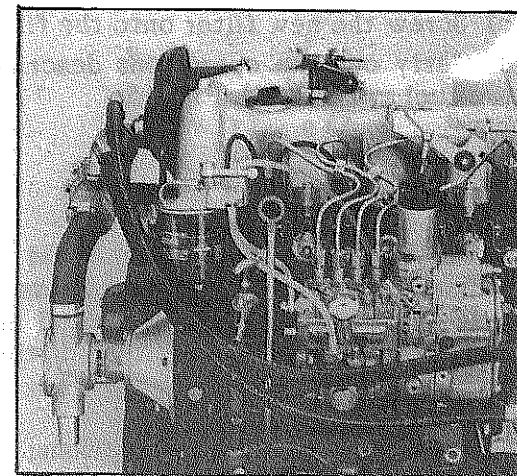

Fig. 15
### 2 - Bleeding the fuel system (Fig. 15)
- d) Carry out the operations described in the section on "Bleeding the fuel system" (2), Fig. 15.
- a) Loosen the bleed screw (2), Fig. 15.
- b) Loosen the manual supply pump (1), Fig. 15, turning the knurled cover.